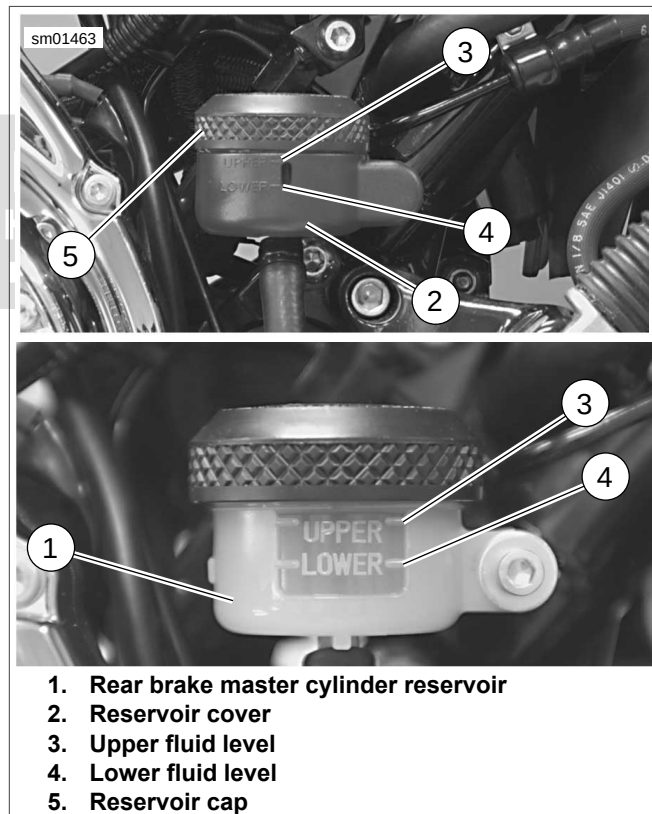

Figure 2-111. Rear Brake Master Cylinder Reservoir
- See Figure 2-111. Reservoir cover (2) may be removed from rear brake master cylinder reservoir (1) to more easily verify fluid level in reservoir.
- See Figure 2-111. To remove reservoir cover, grasp cover (2) and gently pull straight out from reservoir (1).
- Remove rear brake master cylinder reservoir cap (5). Add DOT 4 BRAKE FLUID to reservoir until fluid reaches upper fluid level (3). Do not overfill reservoir. Do not reuse brake fluid.